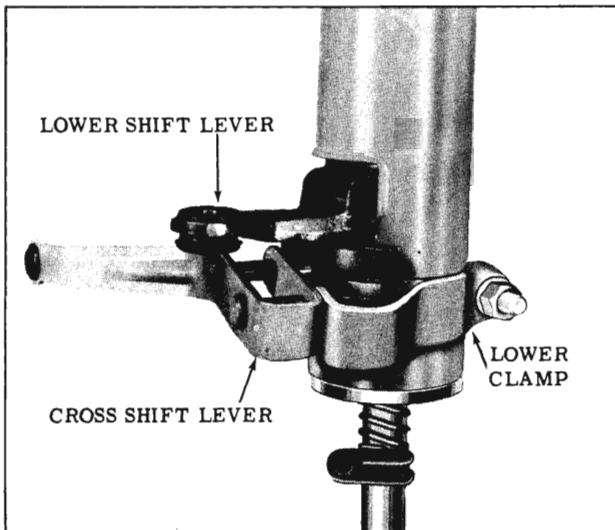

Fig. 4-79 Synchronesh Shift Levers
3. On cars equipped with Synchromesh, disconnect rod from cross shift lever. (Fig. 4-79)